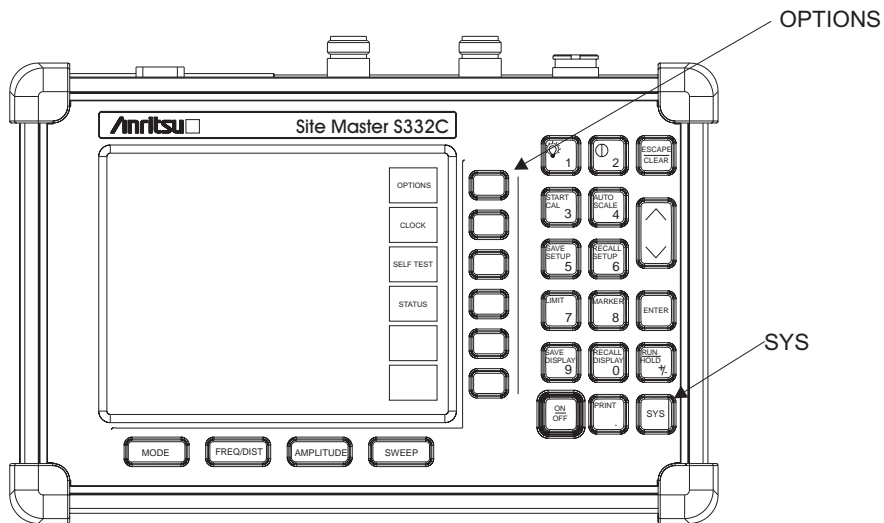

Figure 3-5-. SYS Key and OPTIONS Soft Key
**Step 3.** Press the **SYS** key and the **OPTIONS** soft key (Figure 3-5).